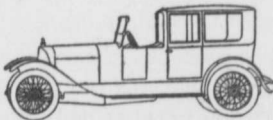

FIG. 4.
- FIG. 4.—An F. R. P.' Brougham. A car fit for a king and his queen. Price \$9,000, 5 passenger, 6 cylinder, 52 horsepower.